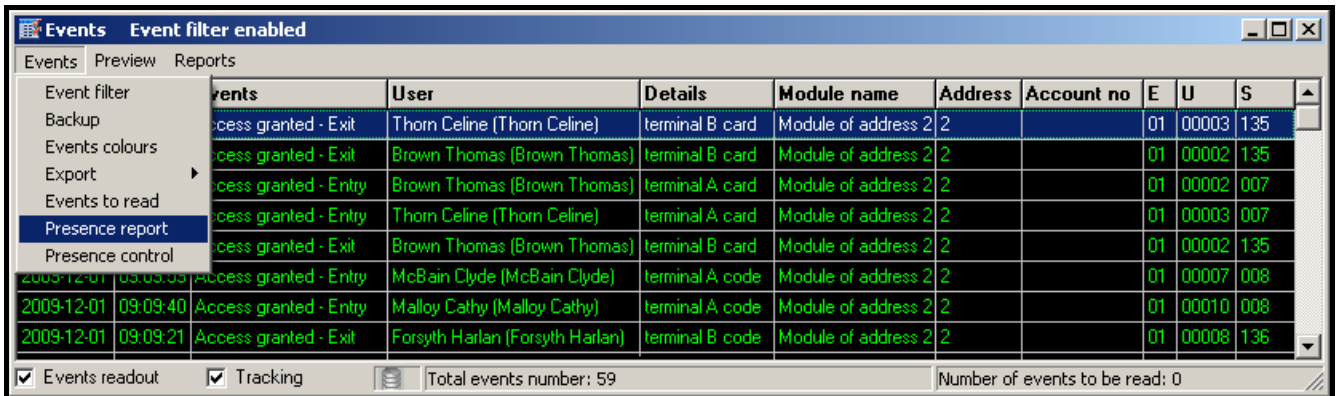

Fig. 34. PRESENCE REPORT command in the EVENTS window.
- in the main menu, select the EVENTS command / button. In the window that will open, go to the menu and select the EVENTS command, then select PRESENCE REPORT (see Fig. 34);
- in the main menu, select the EVENTS command / button. In the window that will open, go to the menu and select the EVENTS command, then select PRESENCE CONTROL (see Fig. 34);